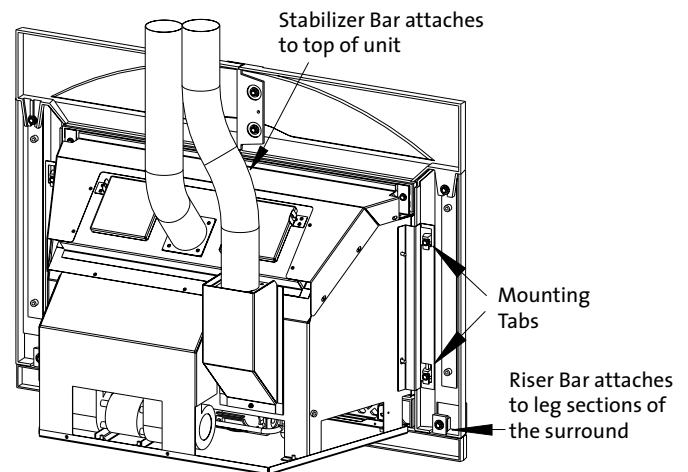

Figure 43. Riser Bar installation.
6. Secure the two sections of the riser bar together with a washer and bolt and bolt the assembled riser bar to the surround legs as shown in fig. 43.
7. Slide the surround assembly down into the mounting holes. Be sure all four mounting tabs engage securely with the adjacent bracket holes. See fig. 43.